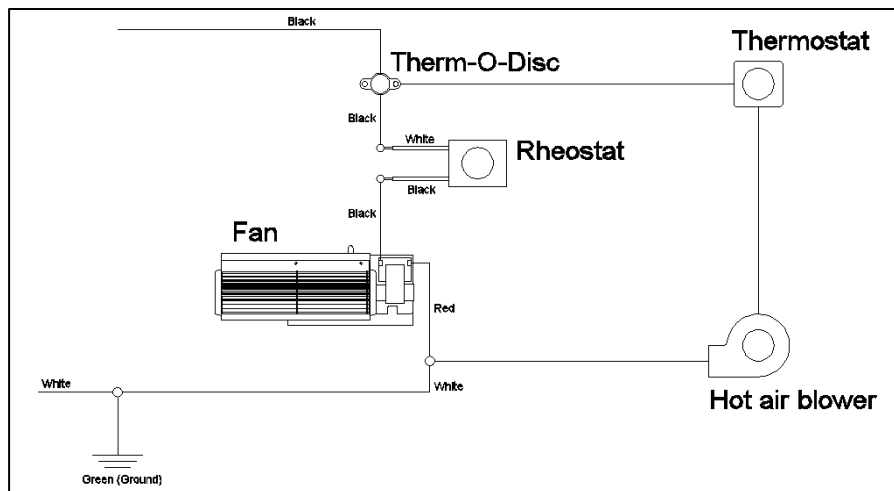

Figure 4-7: Electrical Diagram for Parallel Connection of Hot Air Kit and Blower Kit
7. Make the electrical connections (Figures 4-7 and 4-8). Note that the power supply to the blower is 115V.